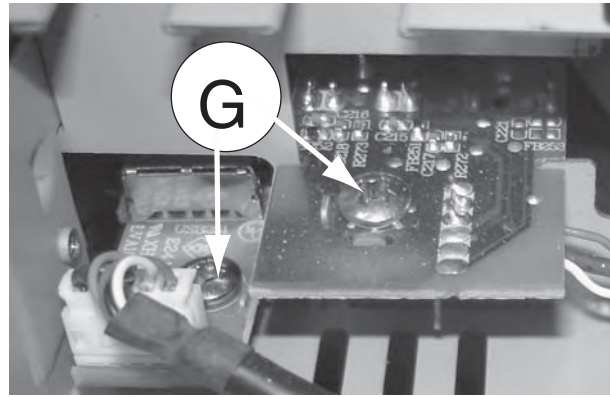

Figure 9
- 1) Loosen 2 screws "H" as shown in figure 9 to remove MP3+USB Board.